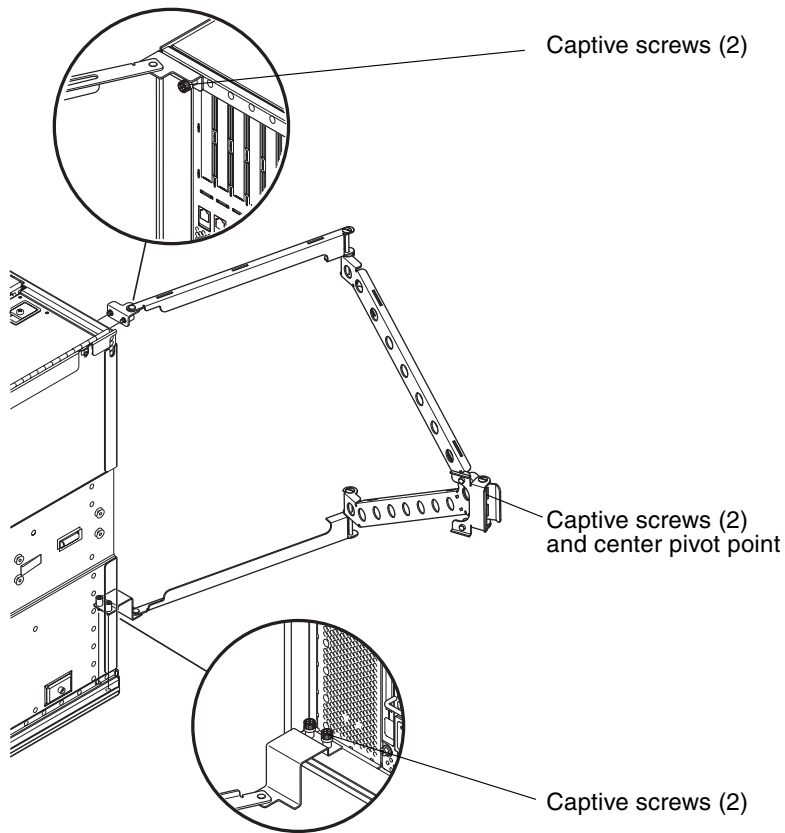

FIGURE 5-2 CMA-Lite Cable Management Arm
1. Loosen two captive screws (FIGURE 5-2) that secure:
1. Secure the pivot at the end of the upper arm to the top rear of the system, using the two captive screws (FIGURE 5-2).